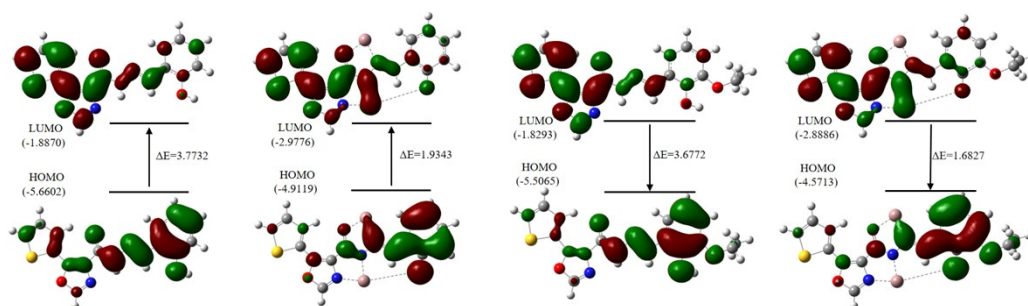

Fig. S16. The HOMO and LUMO orbital distributions and energy levels of L1, L1- Ga^{3+} and L2, L2- Ga^{3+} .
16. **Figure S16.** The HOMO and LUMO orbital distributions and energy levels of **L1**, **L1-Ga³⁺** and **L2**, **L2-Ga³⁺**.